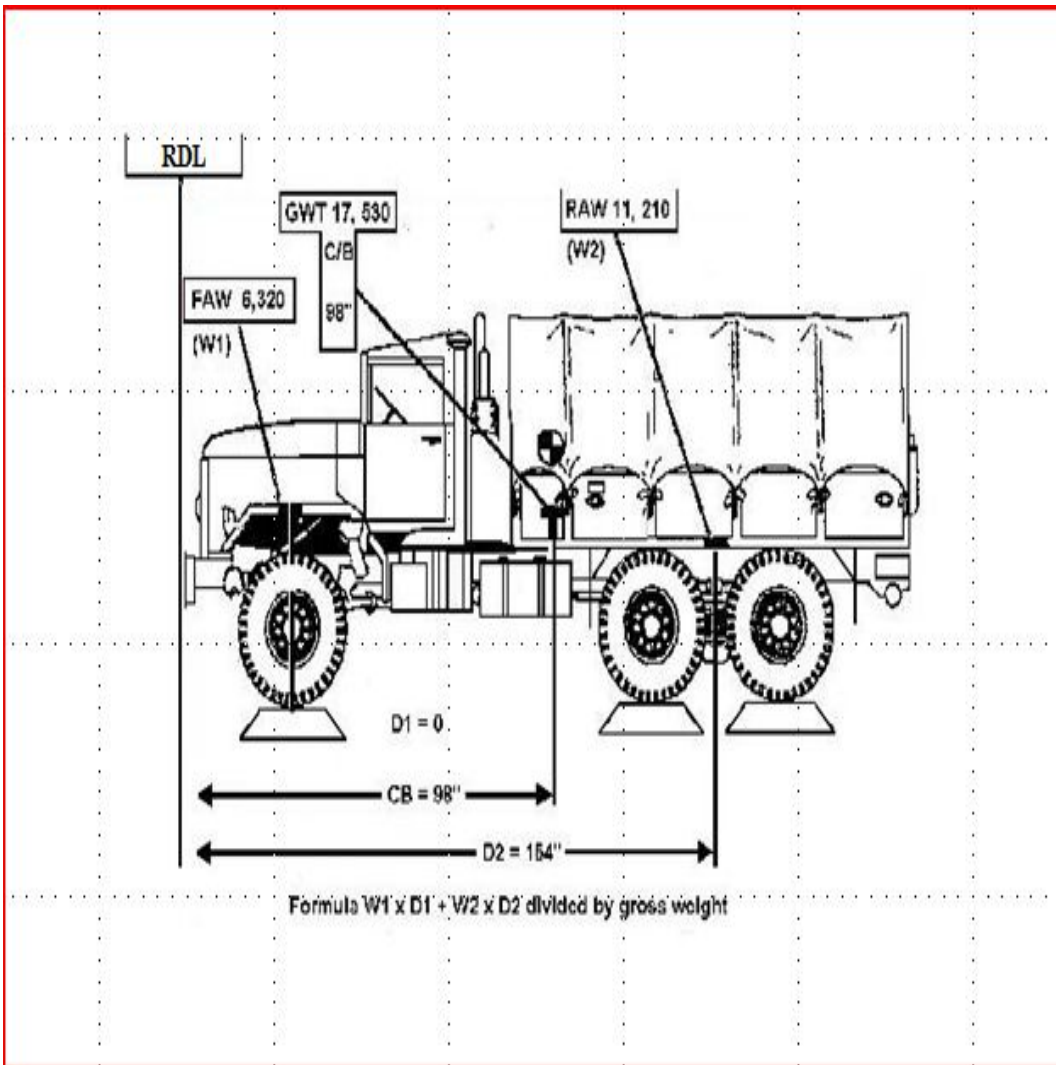

Figure 3-133
a. For tandem axles with less than 48-inch axle separation, compute center of balance (CB) from RDL to tandem midpoint (see Figure 3-133).